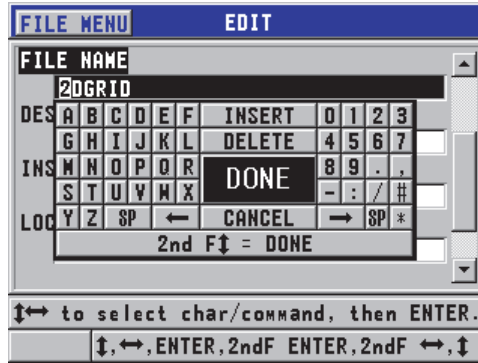

Figure 6-29 Entering new file information
2. In the **EDIT** screen (see Figure 6-29 on page 120):